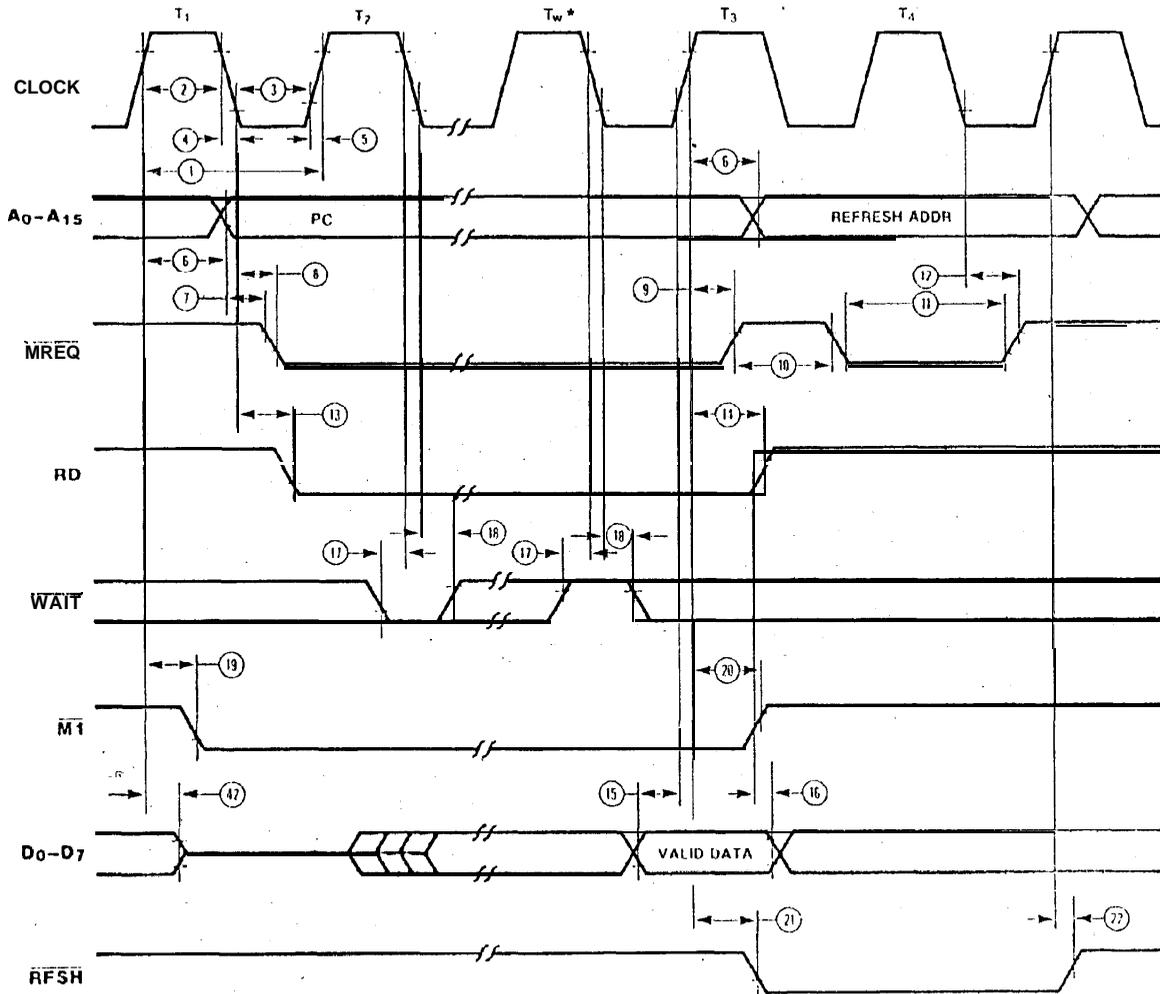

Figure 5. Instruction Opcode Fetch
Instruction **Opcode Fetch**. The CPU places the contents of the Program Counter (PC) on the address bus at the start of the cycle (Figure 5). Approximately one-half clock cycle later, \overline{MREQ} goes active. When active, \overline{RD} indicates that the memory data can be enabled onto the CPU data bus.